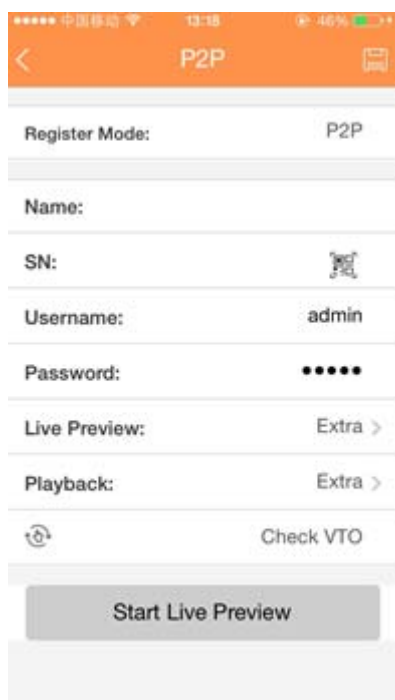

Figure 5-60
3. Tap Device manager button, you can use several modes (P2P/DDNS/IP and etc) to add the device. Click  to save current setup. Tap Start Live preview to view all-channel video from the connected device. See Figure 5-60.